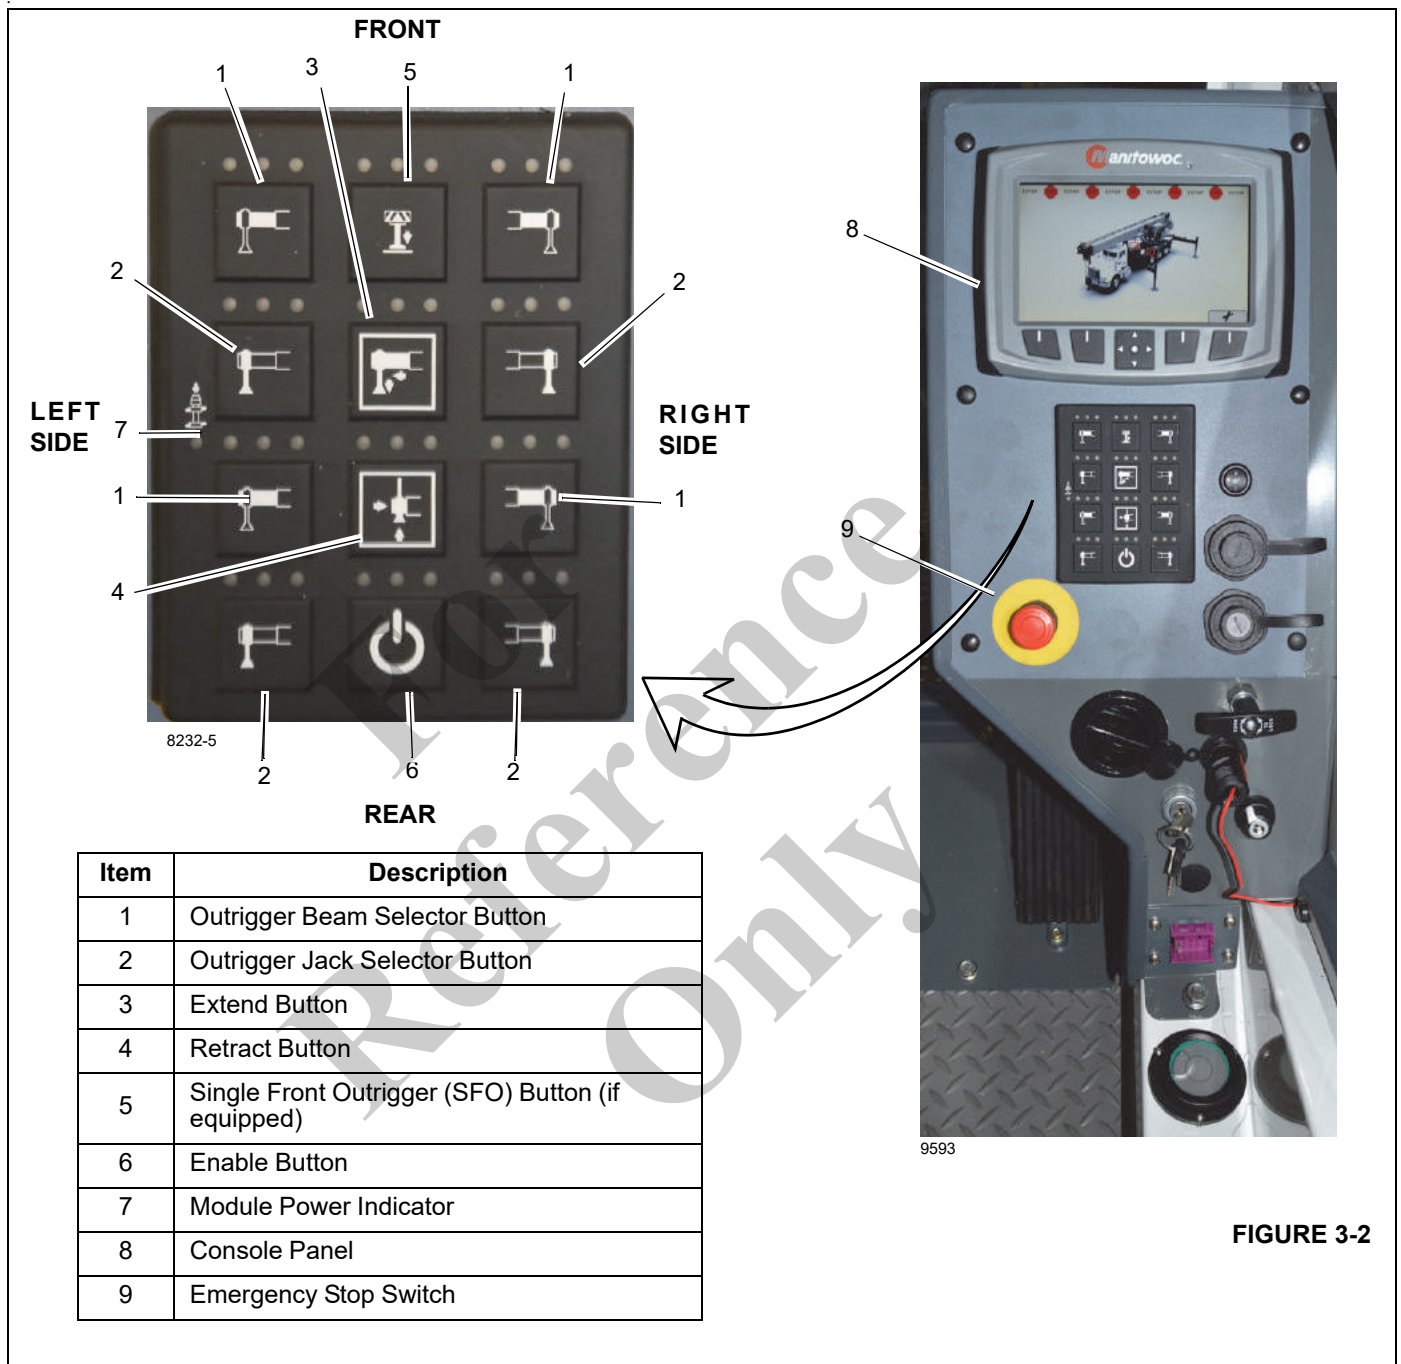

FIGURE 3-2
- The Crane Cab ESTOP switch (9, Figure 3-2) must be released.
The outriggers can be operated from three locations, including the keypad controller located on the (Figure 3-1) crane cab console and two ground station control keypads (Figure 3-2) located on the left and right sides of the carrier frame. The cab outrigger controller contains the controls for extending and retracting the outrigger beams, for raising and lowering the outrigger stabilizer (jack) cylinders and for raising and lowering the single front outrigger (SFO), if equipped. The right (passenger) side ground station controls all vertical outrigger cylinders and the SFO (if equipped), but only the horizontal beams on the right (passenger) side of the crane. The left (driver) side ground station controls all vertical outrigger cylinders and the SFO (if equipped), but only the horizontal beams on the left (driver) side of the crane.
The cab outrigger control panel (Figure 3-2) is located on the superstructure cab front console panel and is used to control the outriggers from inside the cab. The control panel contains a touch pad with control buttons and indicators for extending and retracting the outrigger beams, raising and lowering the outrigger jack cylinders and raising and lowering the single front outrigger (SFO), if equipped. If not equipped with an SFO, the SFO LED indicators above the SFO button illuminate red. The crane cab control station contains a level indicator and an emergency stop switch. All
There are four outrigger jack selector buttons located on each outrigger control panel (Figure 3-1 and Figure 3-2).
The enable button is located on cab outrigger control panel (Figure 3-2) and is used in conjunction with Pre-selection of outrigger selector switches control the outrigger functions.
The extend button is located on the outrigger control panel (Figure 3-2) and is used in conjunction with the enable buttons to control both the outrigger beams or the jacks functions.
The retract button is located on the outrigger control panel (Figure 3-2) and is used in conjunction with the enable buttons to control both the outrigger beams or the jacks functions.
LED indicators display the status of the control button being selected (Figure 3-2) on the cab outrigger control panel. A LED will illuminate for 5 seconds after a button has been selected.
The module power indicator is located on cab outrigger control panel and indicates the outrigger control station (Figure 3-2) is activated when a green LED illuminates. The control station cannot be activated if the crane is performing another function. (For example: operating the boom.)
The outrigger beam selector buttons (Figure 3-2 and Figure 3-3) are used to operate the front or rear outrigger beams. Both sides can be operated from the cab outrigger control panel.
Use the outrigger jack selector buttons (Figure 3-1 and Figure 3-2) to indicate which jack you desire to operate.
The Single Front Outrigger (SFO) button is located on the outrigger control panel (if equipped) for the cab outrigger controls (Figure 3-2) and ground outrigger controls (Figure 3-1 and Figure 3-3). The SFO button is used to lower and raise the optional center front stabilizer. To operate the SFO, press the SFO button to activate and then press extend/retract button. The SFO automatically retracts if any of the other jacks are adjusted and must be reset if lifting is to be continued. If not equipped with an SFO, the red LED is lit.
There is an emergency stop switch (Figure 3-2 and Figure 3-3) located at each outrigger control on each side of the carrier (Figure 3-3) and inside the cab on the front console (Figure 3-2). Pressing an emergency stop switch shuts down the engine.